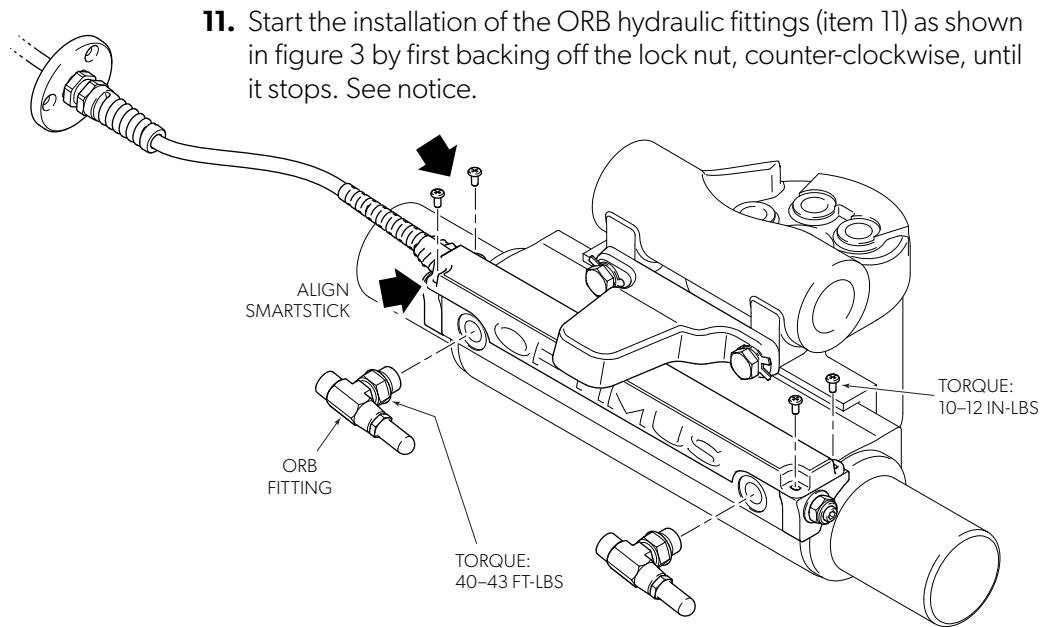

Figure 3.
8. Rest the SmartStick (item 9) across the top of the Verado cylinder in the orientation shown in figure 3. Align the left hand holes with the holes of the SmartStick mount below, and start two of the #6-32 Phillips screws (item 10) as shown in figure 3.
14. While holding fitting body with a wrench, tighten the lock nut and torque to 40-43 ft-lb as noted in figure 3.